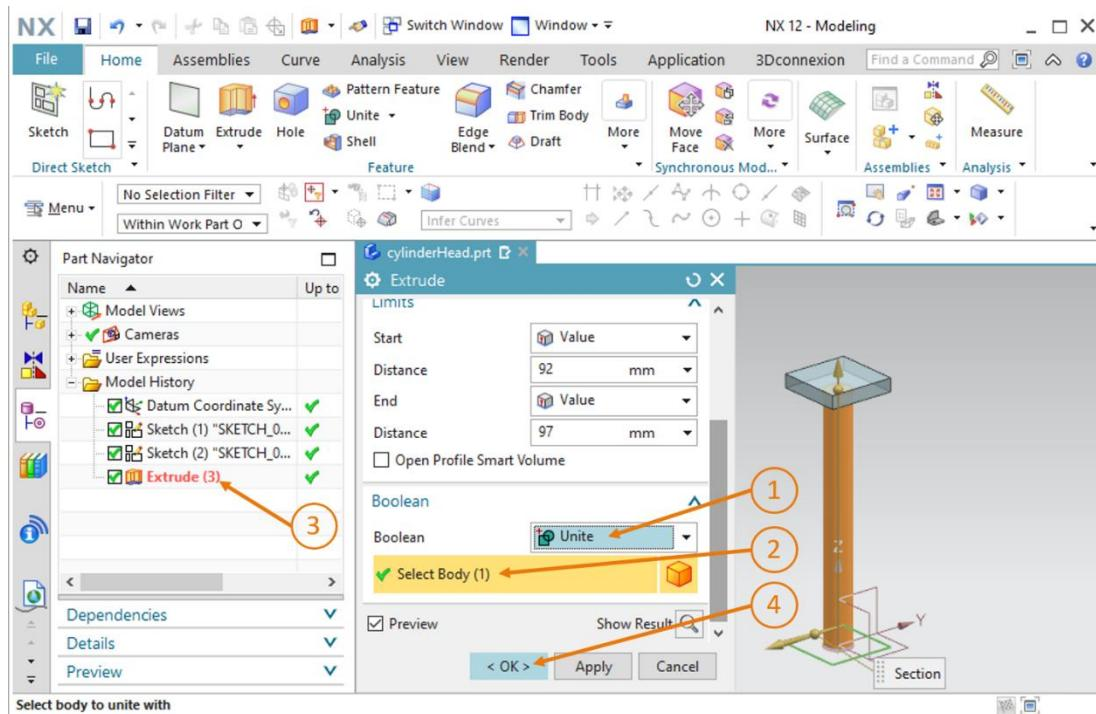

Figure 42: Uniting the arm with the guide cylinder to form one component
- To create one overall component from the two bodies, go to the "Boolean" section of the "Extrude" window, as described previously in Chapter 7.1.5. Instead of subtraction, this time select the "**Unite**" option (see Figure 42, step 1) and select the previously extruded guide cylinder as the body (see Figure 42, steps 2+3). Confirm your selection with "OK" (see Figure 42, step 4).